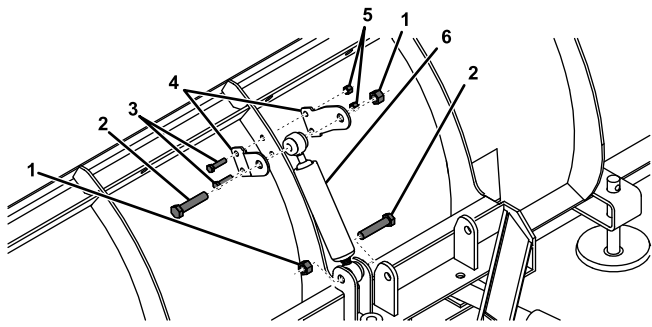

Figure 6
4. If you have a super-duty plow, secure the end of the shock absorber to the push-frame assembly using a bolt (5/8 x 3 inches) and locknut as shown in Figure 6.
- Attach the blade shock-mount to the top of the shock absorber using a bolt (5/8 inch) and locknut as shown in Figure 6.
- Slot the blade shock-mount onto the center rib of the plow and secure it using 2 bolts (3/8 x 1-1/2 inches) and locknuts (Figure 6).
- Extend the shock absorber so that 6 mm (1/4 inch) of the rod is visible (Figure 6).